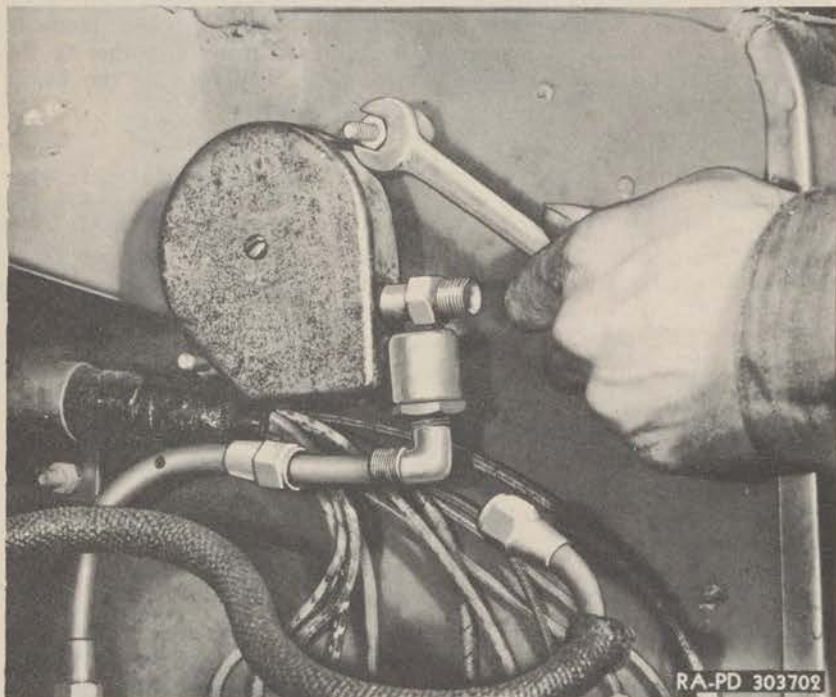

Figure 126—Removing Governor Mounting Nuts
(3) **REMOVE GOVERNOR.** Remove the nuts and lock washers holding the governor assembly to the dash, and remove the governor and spacers from the mounting screws (fig. 126).